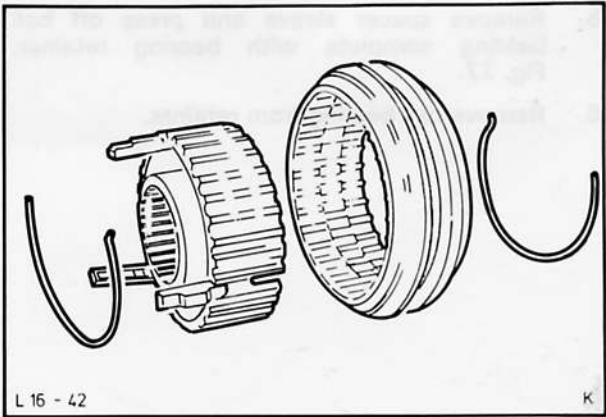

Fig. 80. Synchroniser hub dismantled
20. Dismantle synchroniser hubs, Fig. 80.